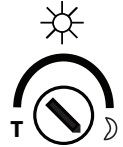

Fig. 7
1. Turn the light control knob all the way clockwise to the moon symbol (dusk position) (Fig. 7).